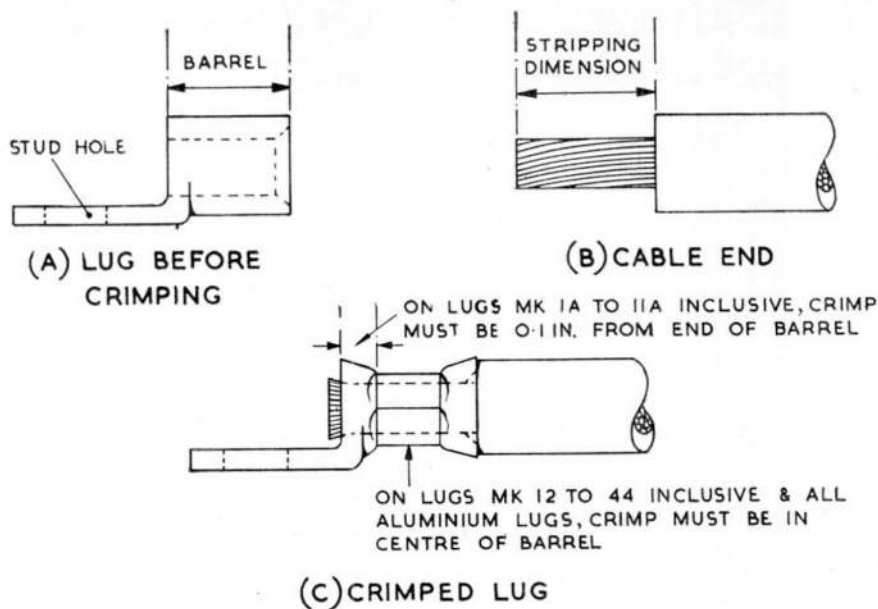

Fig. 7. Hexagon crimping of cable lugs
30. The crimping process is illustrated in fig. 7. It is most important that copper lugs should not be used on an aluminium conductor, and vice versa, as otherwise the presence of even slight moisture would set up corrosive action between the two metals.